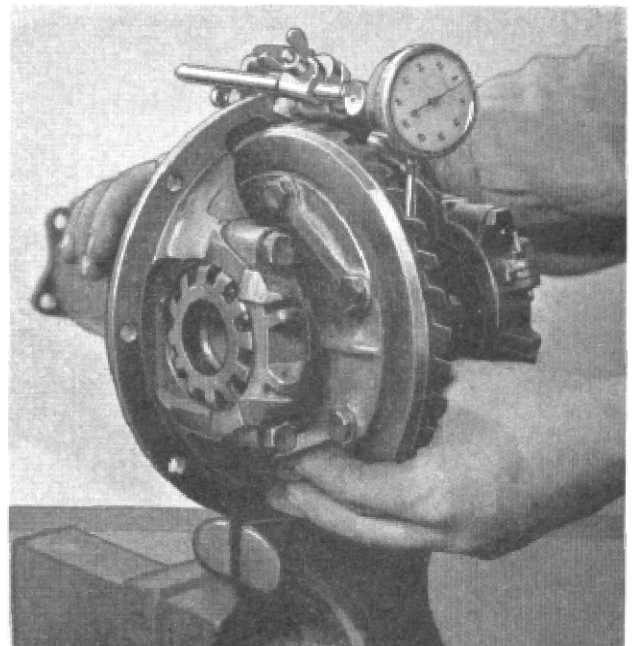

Figure 14
(47) Mount dial indicator J-390-X (Fig. 14) on differential carrier flange and turn left hand adjusting nut to left or anti-clockwise one-half notch and turning right hand adjusting nut to right or clockwise a similar amount.
(48) With plunger of dial indicator resting on outer edge of drive gear tooth as shown in Fig. 14, rock drive gear and note play or backlash between drive gear and pinion teeth on indicator. This backlash should range between .002" and .005". If this is not obtained, turn adjusting nuts one-half notch at a time until backlash is correct.
(49) Tighten differential bearing cap screws securely on left bearing cap and turn right hand differential bearing adjusting nut to the right one full notch. This additional tightening provides the necessary "spread" to the differential carrier for proper operation.
(50) Draw up cap screws tightly on right hand differential bearing cap.
(51) Install differential bearing adjusting nut locks (13) and cotter-pin them securely in place.